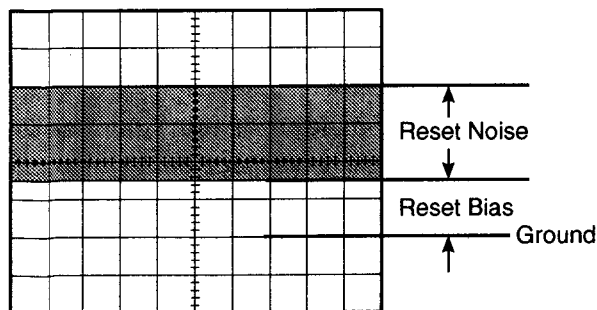

Fig. 5-2
- Adjust VR2 to obtain indicated voltage $\pm 0.03V$ on the Sensor Board as shown in Table 5-2 and Fig. 5-2.